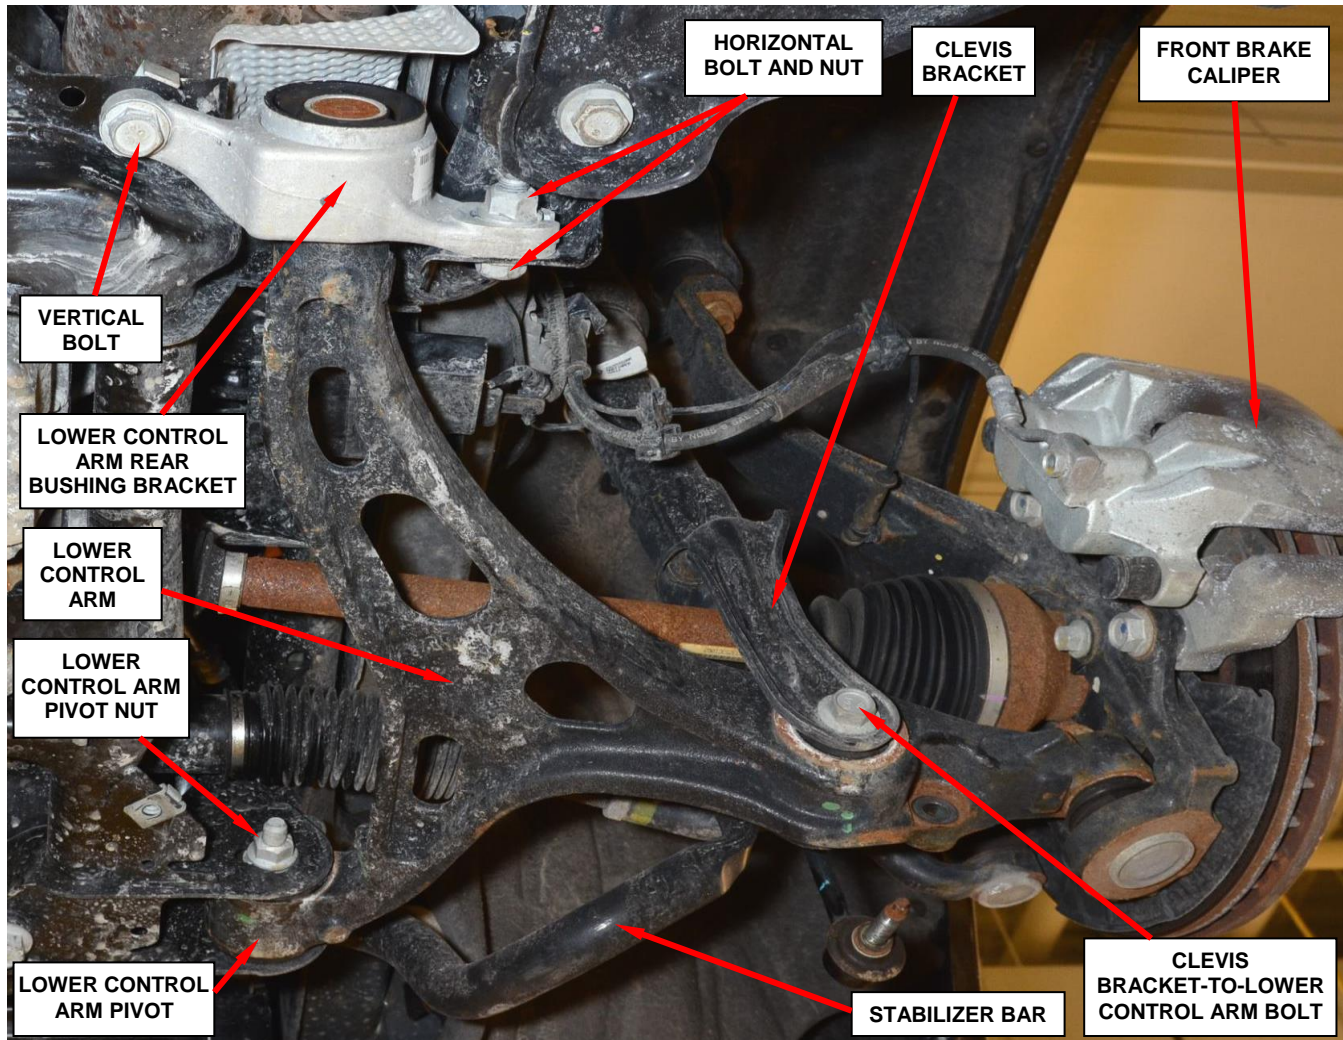

Figure 6 – Shock Absorber Clevis Bracket-to-Lower Control Arm Bolt
11. Remove and save the right front shock absorber clevis bracket-to-lower control arm nut and bolt (Figure 6).
12. Remove and save the lower control arm pivot nut and bolt from the lower control arm (Figure 6).
13. Remove and save the lower control arm rear bushing bracket vertical bolt and nut and the horizontal bolt and nut (Figure 6).